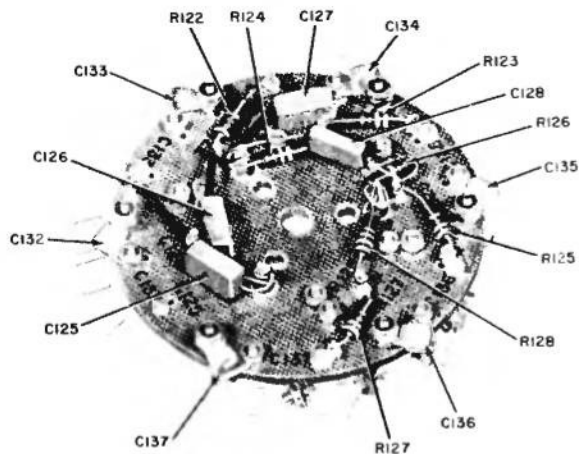

Figure 6-4. Oscillator Coil Turret,
e. REMOVING A COIL FROM THE TURRET. (See figure 6-4.)